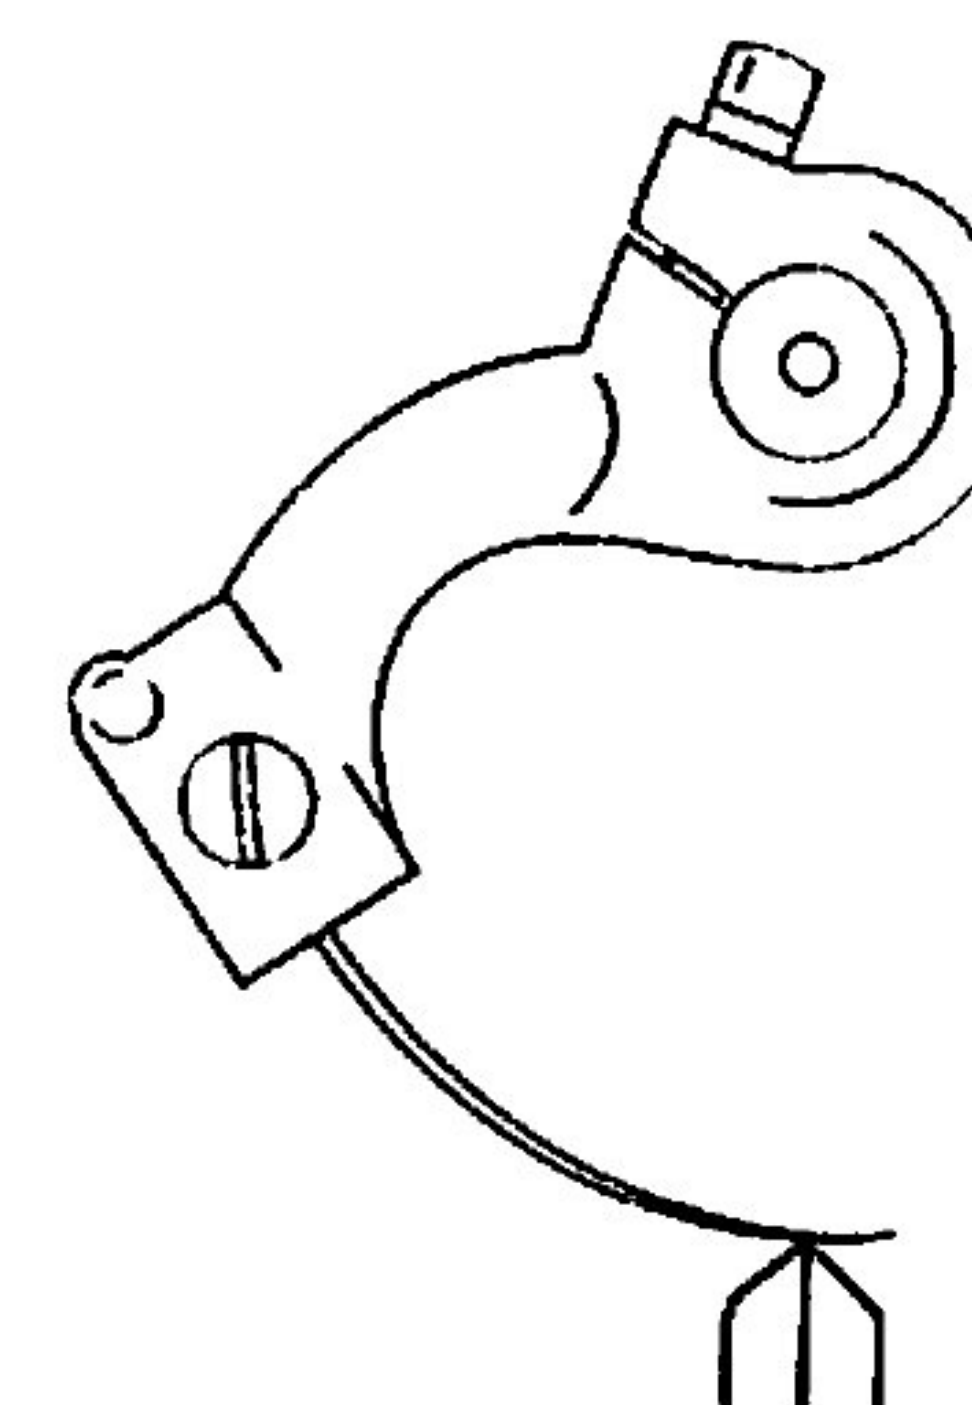

Fig. 3
6. When needle just touches rib (Fig. 3), machine is set to test.